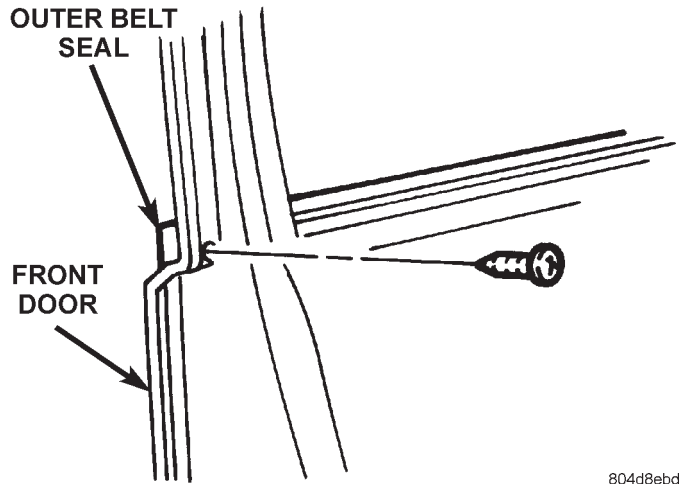

Fig. 23 Front Door Outer Belt Seal
- (1) Lower window glass.
- (2) Remove screw from inner door panel attaching seal to outer door panel (Fig. 23).
- (3) Grasp seal and pull rearward to release it from side view mirror bezel.
- (4) Lift seal upward and separate from door.